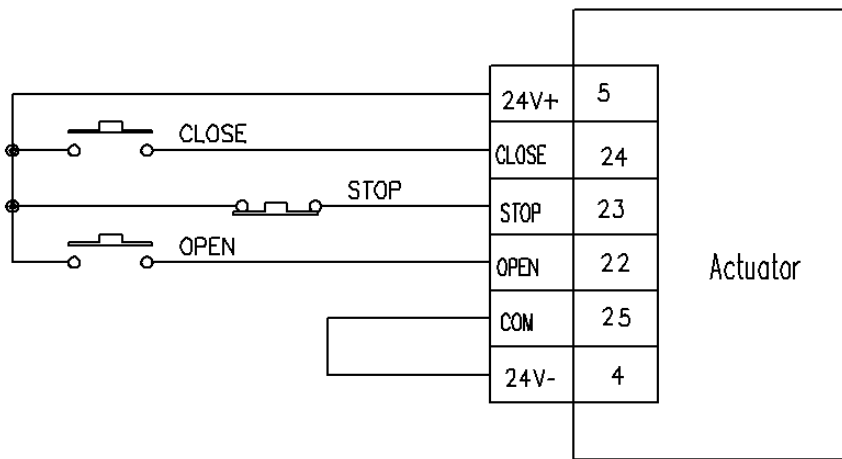

FIG. 4-3
4.2.2.1 open valve, close valve, stop self-sustain control (refer to FIG. 4-3)